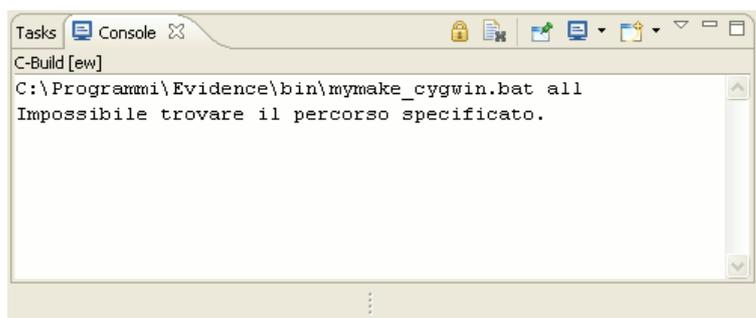

Figure 5.6: An error that shows up on some Windows machines. Please check the `mymake_cygwin.bat` file as explained in the last point of Chapter 3.
**Note:** If the error depicted in Figure 5.6 appears (means that `mymake_cygwin.bat` is unable to find a file), then please follow the instructions at the last point of Chapter 3.